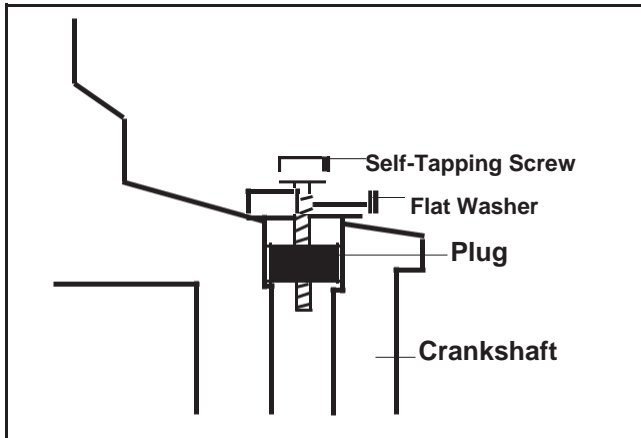

Figure 10-2. Removing Plug.
2. Thread a 3/4" or 1" long self-tapping screw with a flat washer into the drilled hole. The flat washer must be large enough to seat against the shoulder of the plug bore. See Figure 10-2.